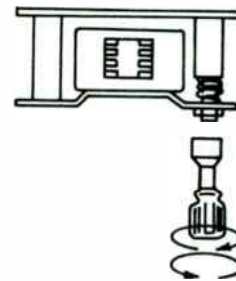

Fig. 7
- (b) Adjust volume control to medium position, and as shown on Fig. 7, align the head azimuth alignment screw with a hexagon box driver to obtain the maximum output of the set.